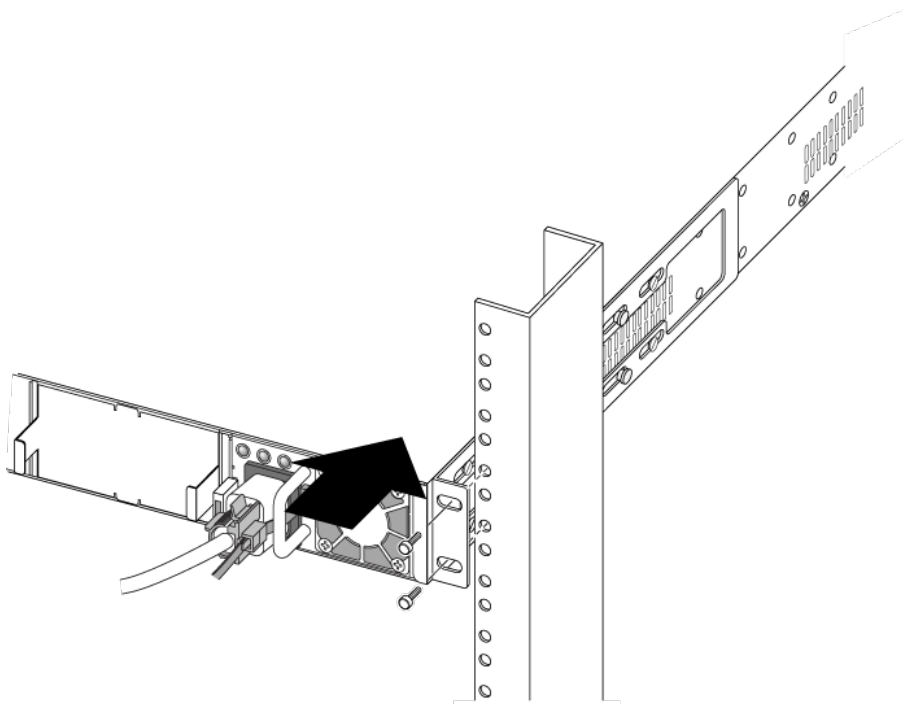

Figure 173: Sliding the EPS-C2 into the Rack and Securing it
- 4 Slide the EPS-C2 into the rack and secure it using appropriate rack-mount screws. See Figure 173.